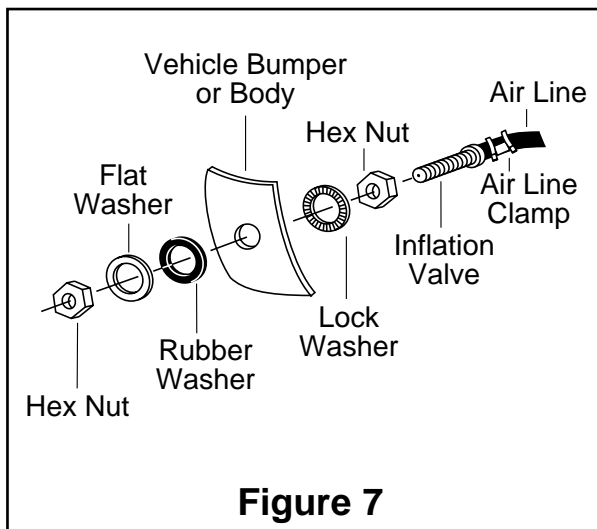

Figure 7
- J. Drill a 5/16" hole for inflation valve and mount as in illustration (Figure 7). Rubber washer is for outside weather seal.
F. Drill 5/16" hole for inflating valves and mount as illustrated. Rubber washer is for outside weather seal (Figure 7).